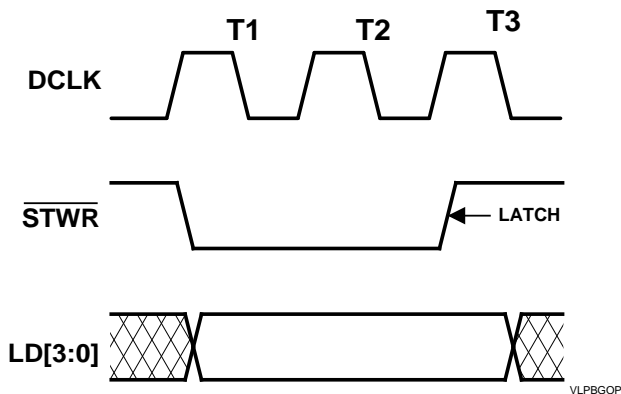

Figure 12-6. General I/O Port Timing (PCI)
5. Write (anything) to CR5C. The data on LD[7:4] are latched 2 DCLKs later into MMFF1C_7-4. (This also drives the contents of MMFF1C_3-0 onto LD[3:0] and generates the $\overline{\text{STWR}}$ pulse on pin 190. The input data is latched on the rising edge of $\overline{\text{STWR}}$. See Figure 12-6)
5. Write (anything) to CR5C. The data in MMFF1C_3-0 are immediately driven onto LD[3:0] and the STWR pulse is generated. The rising edge of STWR (2 DCLKs after it is asserted) can be used to latch the data into an external device. The data is held valid for 1/2 DCLK after this edge. See Figure 12-6.